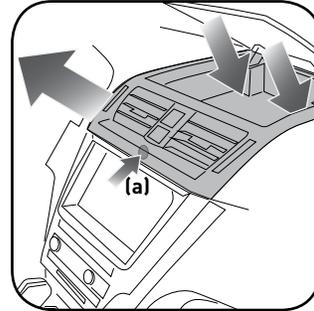

Fig. 1.1
1. Remove (2) 7mm screws from the pocket on top of the dash. Remove the panel. (Fig. 1.1)
2. Note: In some trims, there is a safety strap fixed behind the panel (Fig. 1.1 (a)) that prevents the removal of the top plate/pocket/vents. It's not necessary to remove this unless you want to take the pocket/vents out for ease of install.